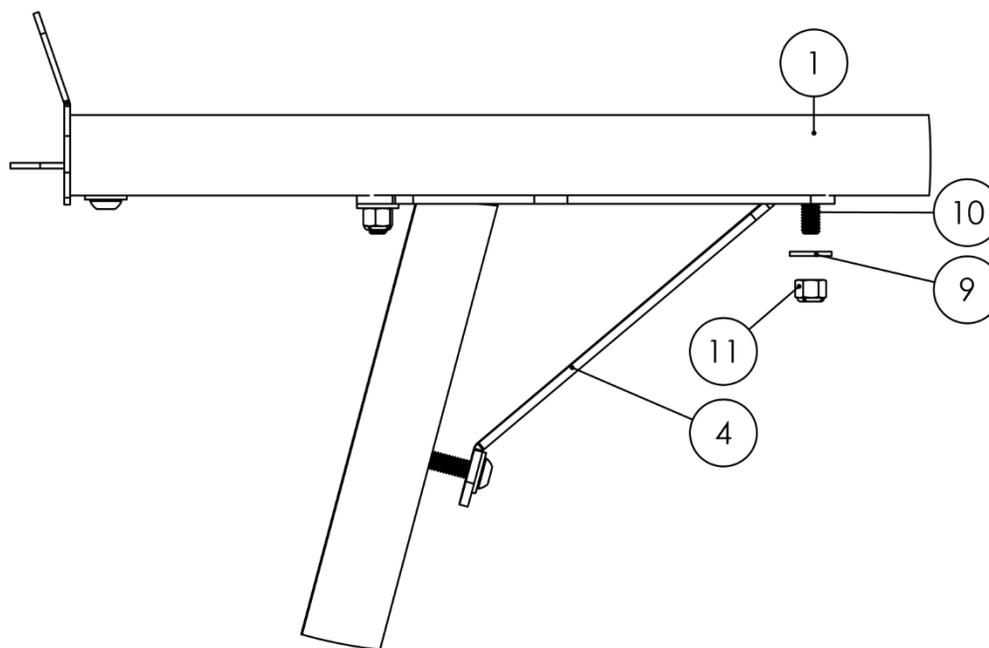

Figure 13
7. **Install the Crossbars onto the Legs.** To install a Crossbar (Item No. 1), hold it above the Legs (Item No. 5) so that the ends of the Carriage Bolts (Item No. 10) hang down and align with the holes on the Crossbar Gusset Assembly (Item No. 4). Using a Metal Washer (Item No. 9) and a Nylon Lock Nut (Item No. 11) secure each Leg and Crossbar. Figure 13 shows the bolt assembly as it is required.